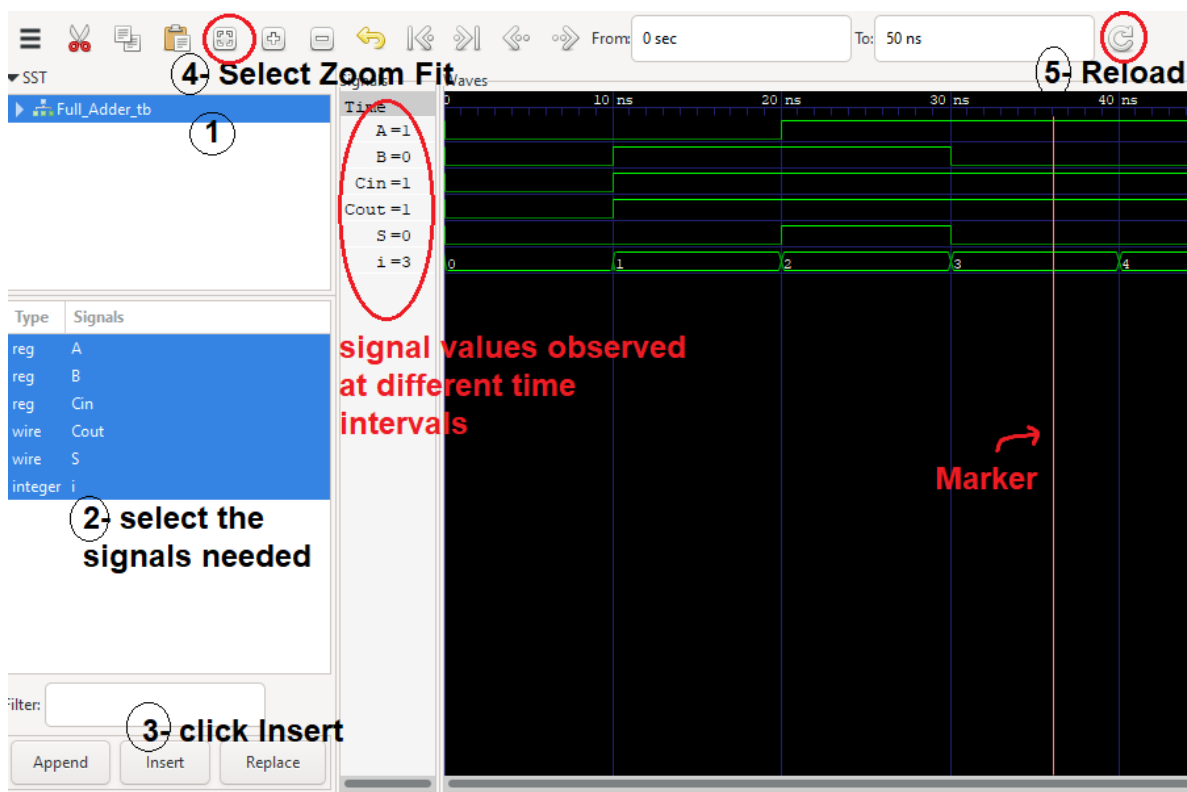

Figure 8: GTKWave Simulation Waveform
8. Load the signals in the GTKWave software the needs to be observed. After this step, you should observe green/ red lines right side of the screen. Click 'Zoom Fit' to fir the waveforms in the selected size of the window and then click 'Reload' (see Figure 8).